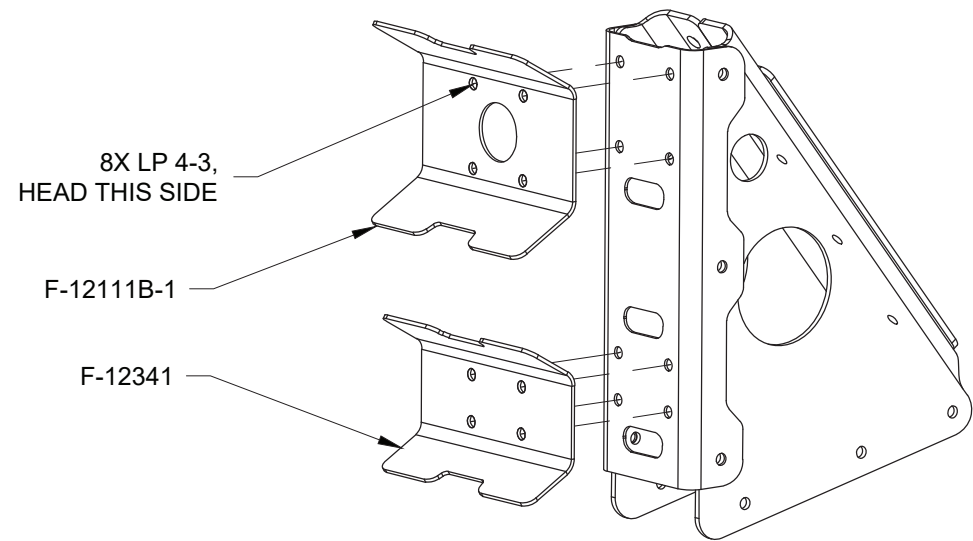

FIGURE 2: RIVETING THE FILTER CRADLE ASSEMBLY
Step 2: Rivet F-12111B-1 and F-12341 to the Filter Cradle Mount as shown in Figure 2.
Step 3: Rivet the Filter Cradle Assembly to F-01207D-L-2 as shown in Figure 2.